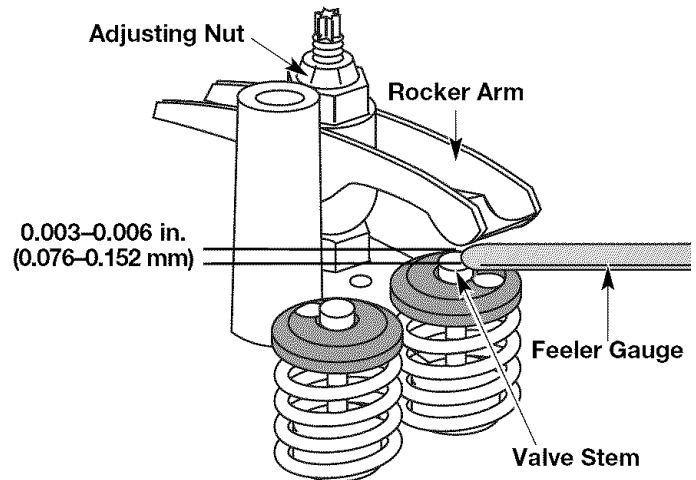

Fig. 29
8. Slide the feeler gauge between the rocker arm and the valve return spring. Measure the clearance between the valve stem and rocker arm (Fig. 29). Measure both the intake and exhaust valves.
- a. Turn the adjusting nut using a 5/16 inch (8 mm) wrench or nut driver (Fig. 29).